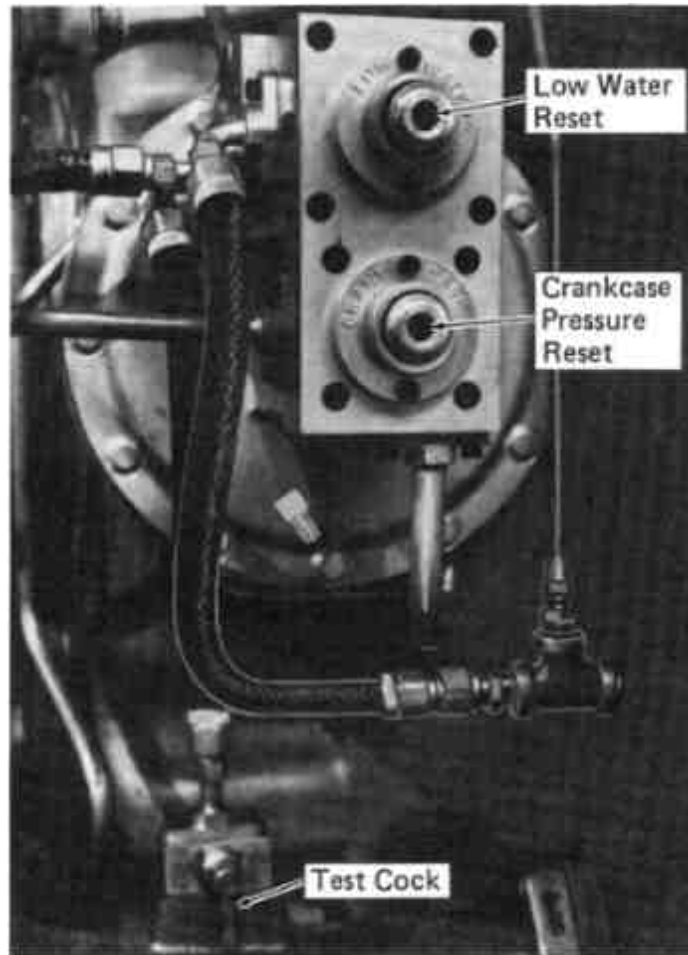

Fig.3-2 - Differential Low Water And Crankcase (Oil Pan) Pressure Detector
3. Observe that the crankcase (oil pan) pressure detector reset button, Fig. 3-2, is set (pressed in). Since the engine must be running, and